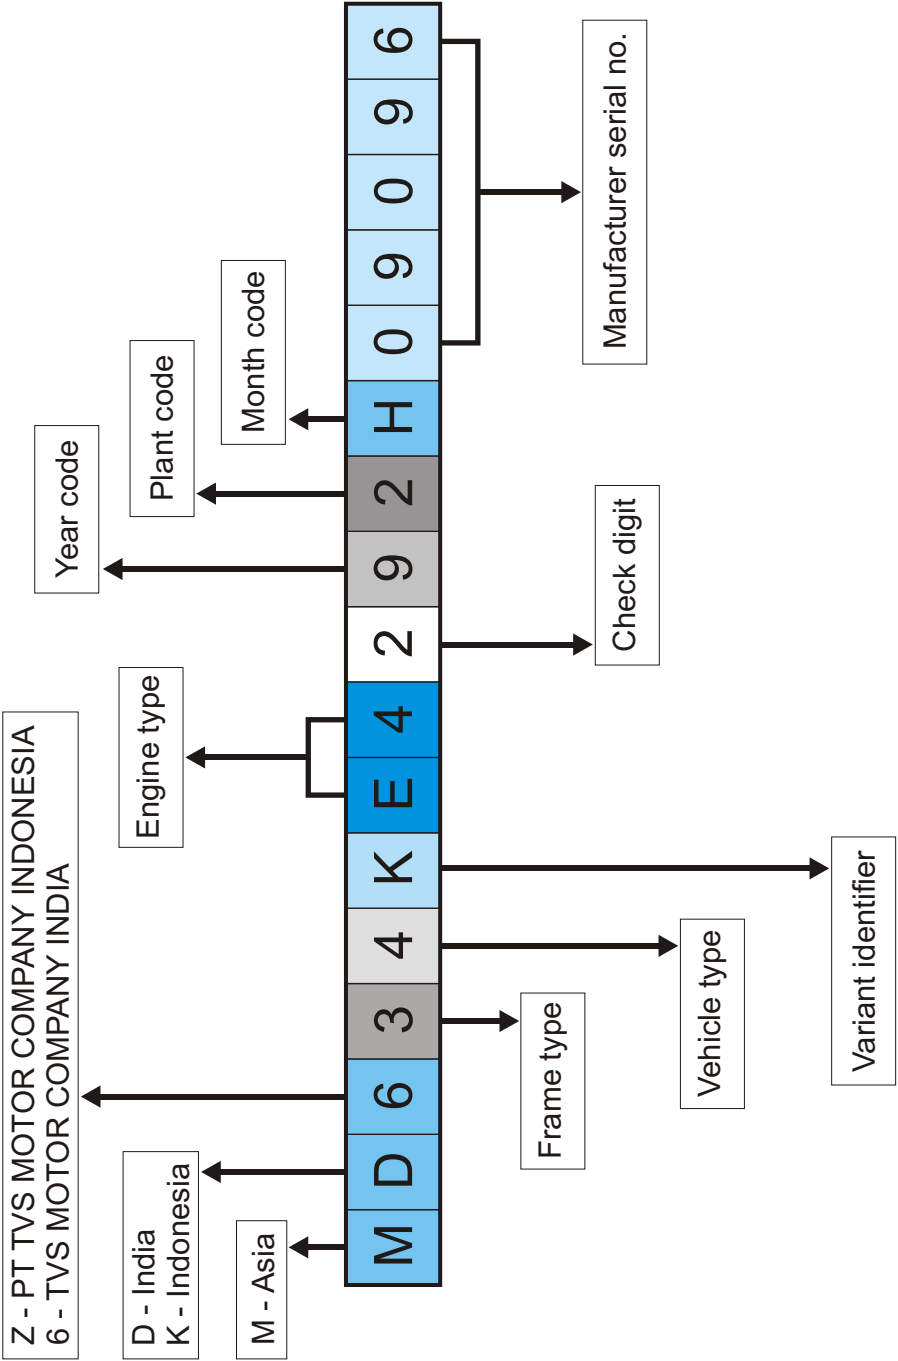

Fig. 1.5
- The engine serial number is engraved on the left side crankcase near cylinder block. (Fig. 1.5)